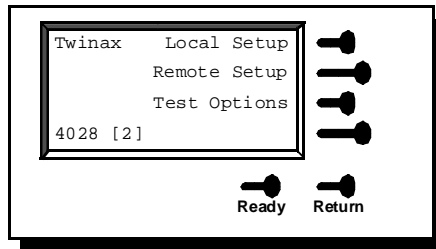

Figure 2.
- The [2] displayed next to the emulation in figure 2 indicates the Twinax Station Address. This indication is only shown in Twinax mode. For more information on setting the Twinax address refer to page 37.